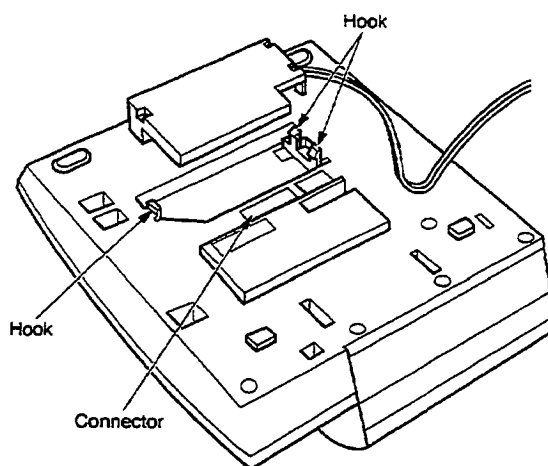

Figure 1-75 Attach the ADA-U Unit to the Digital Multiline Terminal
5. Plug the ADA-U Unit connector in the receptacle connector on the back of the terminal (Connector in the diagram). Snap the ADA-U Unit between Hooks on the diagram to secure it. Refer to Figure 1-75 Attach the ADA-U Unit to the Digital Multiline Terminal.